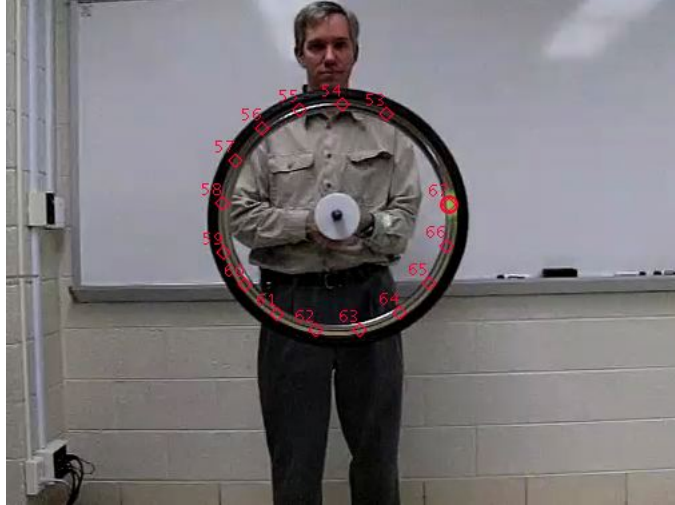

Figure 7: Marks for the green sticker on the rotating bicycle wheel.
11. Hold the shift key down and click once on the green sticker that is on the bicycle tire. The video will then advance 5 frames. Continue to mark the green sticker for a total of 4 revolutions. If you are only displaying the last few marks, then it will look something like Figure 7.